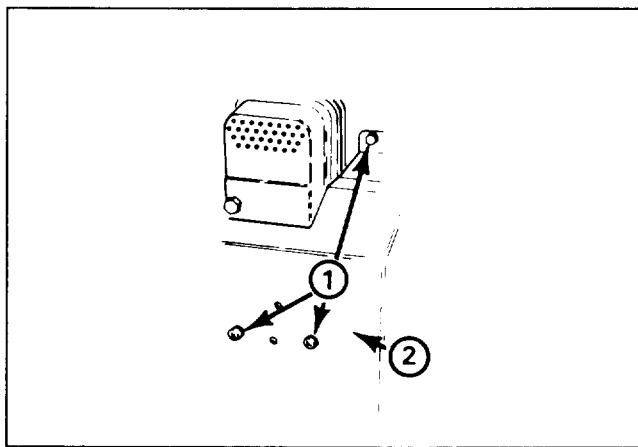

Figure 17
**Note:** If engine is operated when temperature is  $+40^{\circ}$  F ( $4^{\circ}$  C) or higher, remove carburetor heater box. However, the heater box (Fig. 17) must be reinstalled when temperature falls below  $+40^{\circ}$  F ( $4^{\circ}$  C). To remove heater box: